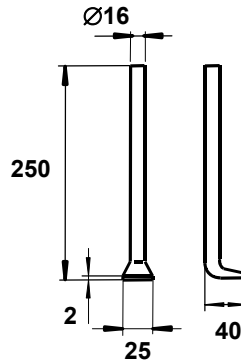

Fig. 1
- Detachment tool for the casing wear ring/sideplate. Fig. 1.
The casing wear ring (502.11) between the closed impeller and volute casing and also the casing wear ring (502.12) between the impeller and casing cover in the pump type EPP can be removed with a suitable tool by using the three notches situated under the casing wear ring, Fig. 1.
- 3 The sideplate can now be removed with a proper tool from the volute casing. Fig. 1.